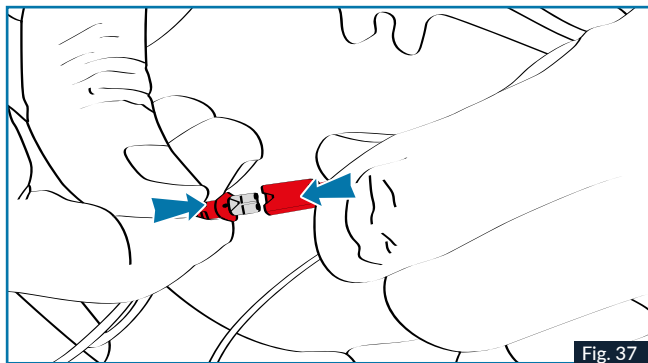

Fig. 37
9. Connect the microphone (red connector), and the keypad as shown in Fig. 37.